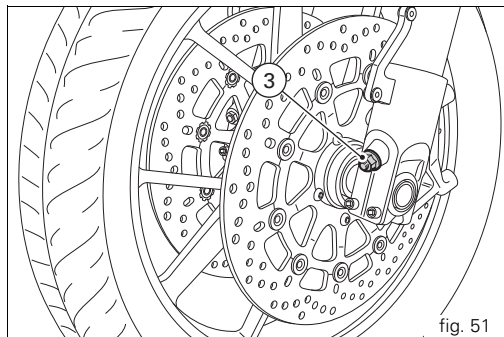

fig. 51
- 3) to adjust compression damping (fig. 51).
Turn the adjuster (3, fig. 51) at the rear end of the wheel shaft pinch bolts with a flat screwdriver to adjust compression damping.